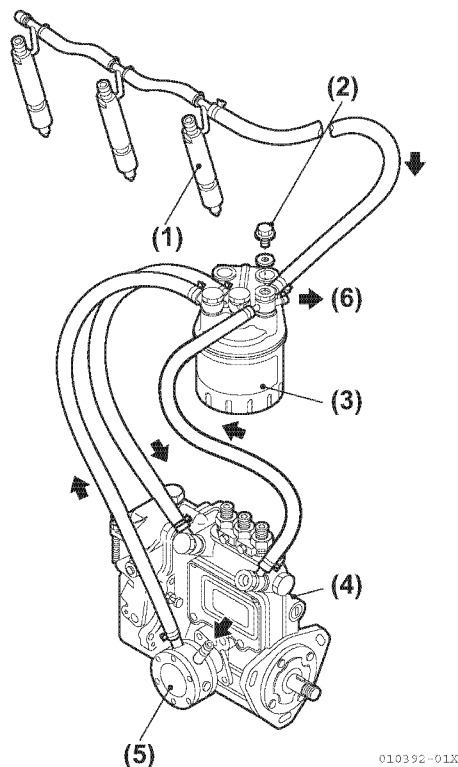
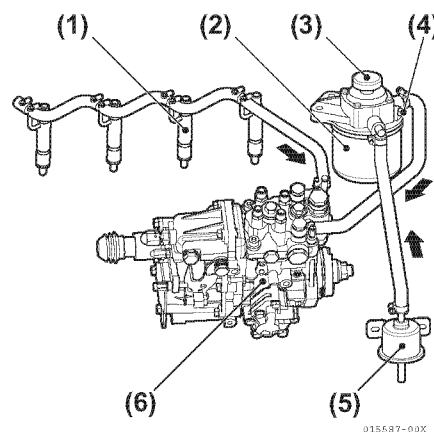

Figure 5-12
Figure 5-13
12. Remove the fuel filter (Figure 5-12) and (Figure 5-13).